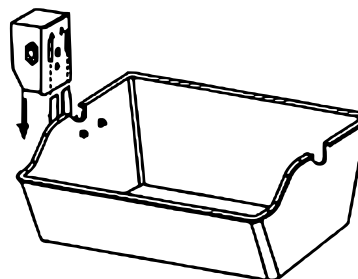

Figure 2: Sliding the motor into its support.
2. Slide the grill motor into the support (**Fig. 2**).